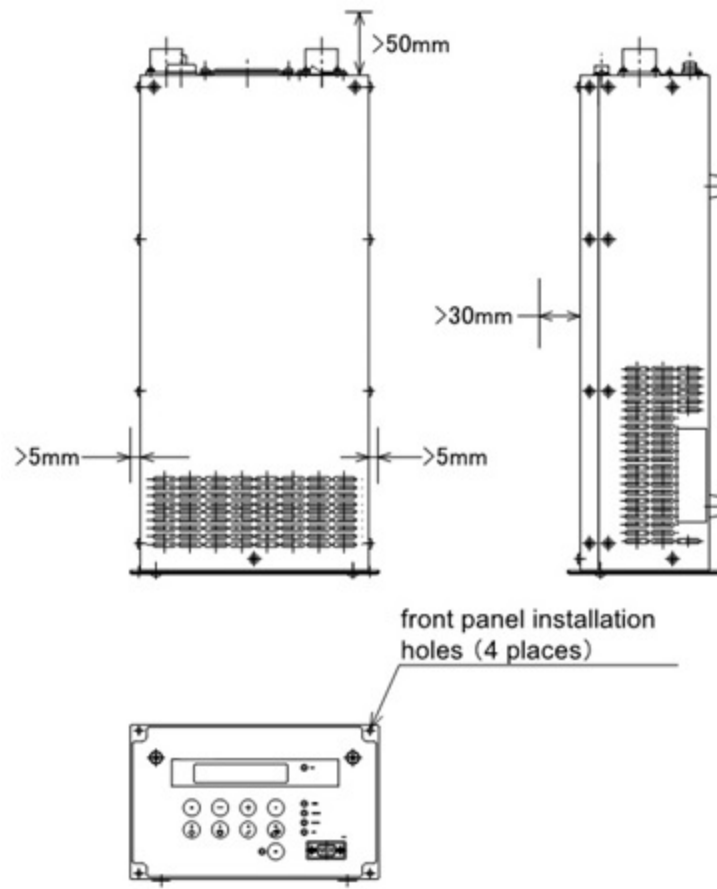

Fig. 5-1 Leave Enough Space Around the controller
- (3) In order to ensure that the interior of the controller is cooled sufficiently, leave a gap inside the rack of at least 30 mm above, 5 mm on either side, and 50 mm to the rear of the controller (Refer to Fig. 5-1).